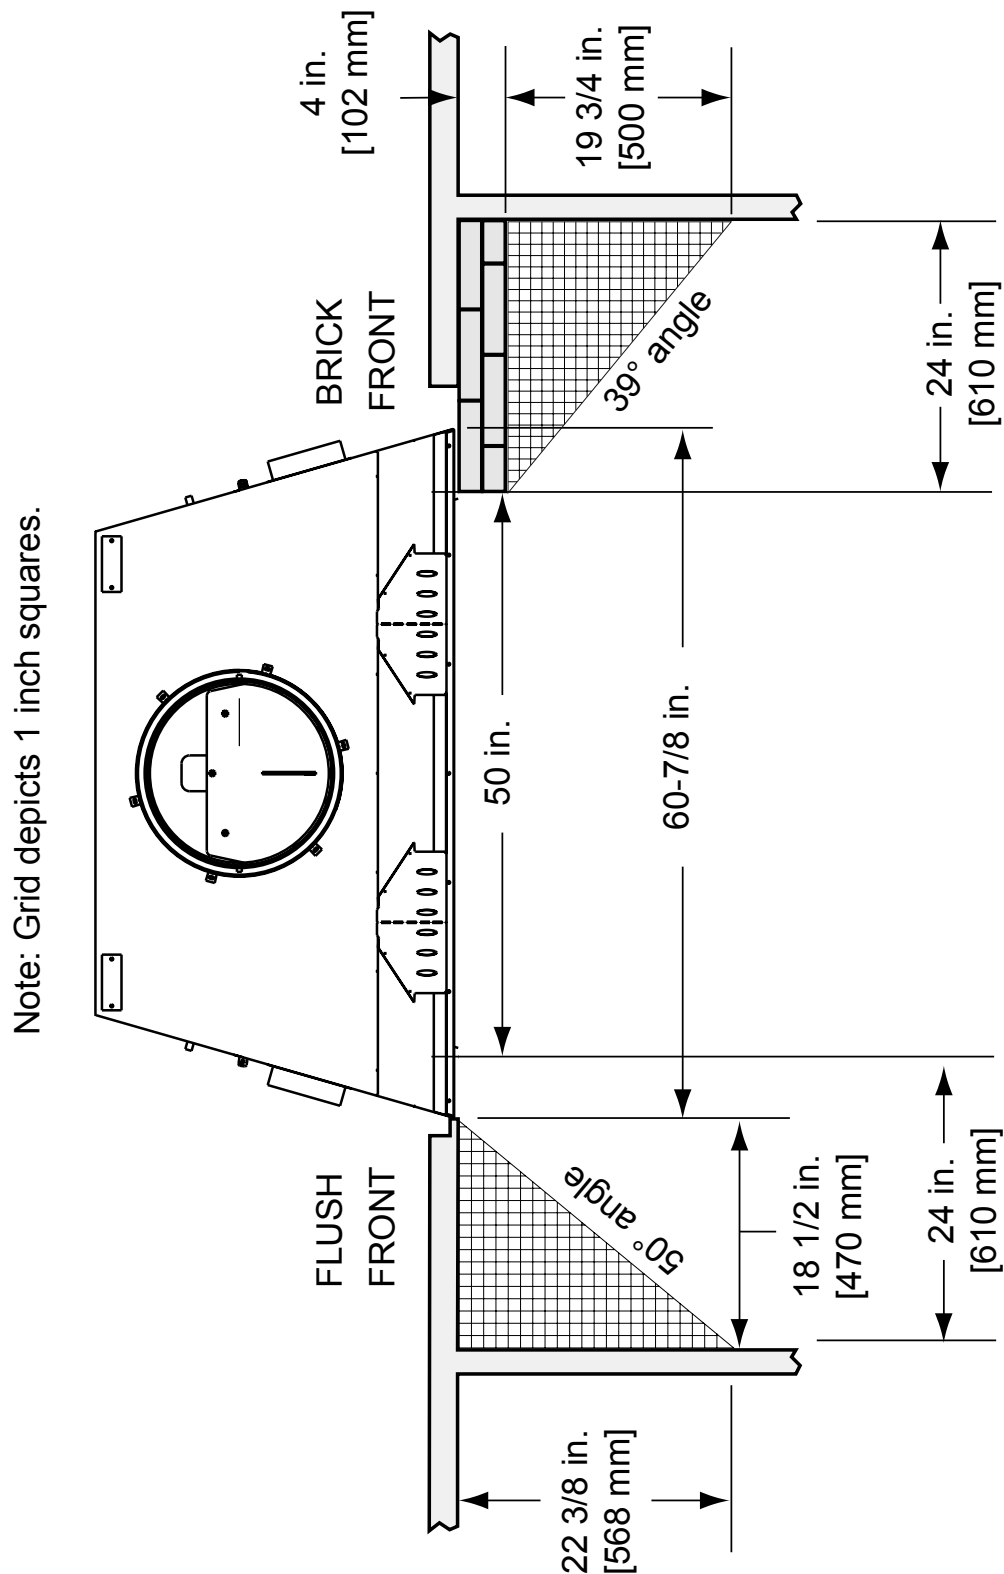

Figure 12.15 Combustible Mantel Leg or Wall Projections (Acceptable on both sides of opening)
- Combustible mantel legs, surrounds and stub walls may be constructed per Figure 12.15.